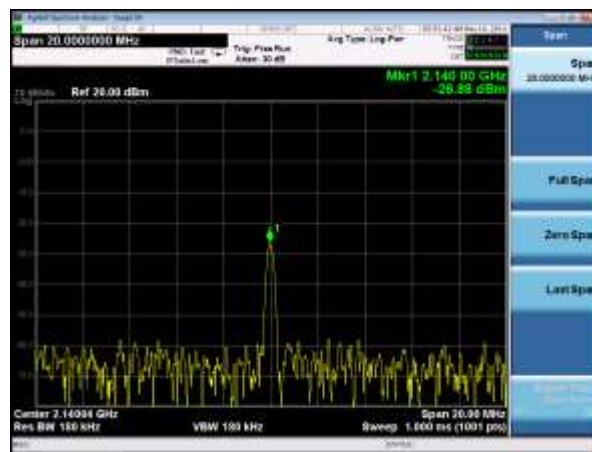

Figure 13 Basic TX testing using DC offset resulting in LO leakage
When the transmitter is configured as shown in section 5.2, the TX1\_A output (socket X1) can be connected to a spectrum analyzer (SA). The SA you can now observe the results of this basic operational test (*Figure 13*). The test is looking at the DC offset from the un-programmed data DAC as LO leakage and the example shown below is measuring a value of -26.8dBm.